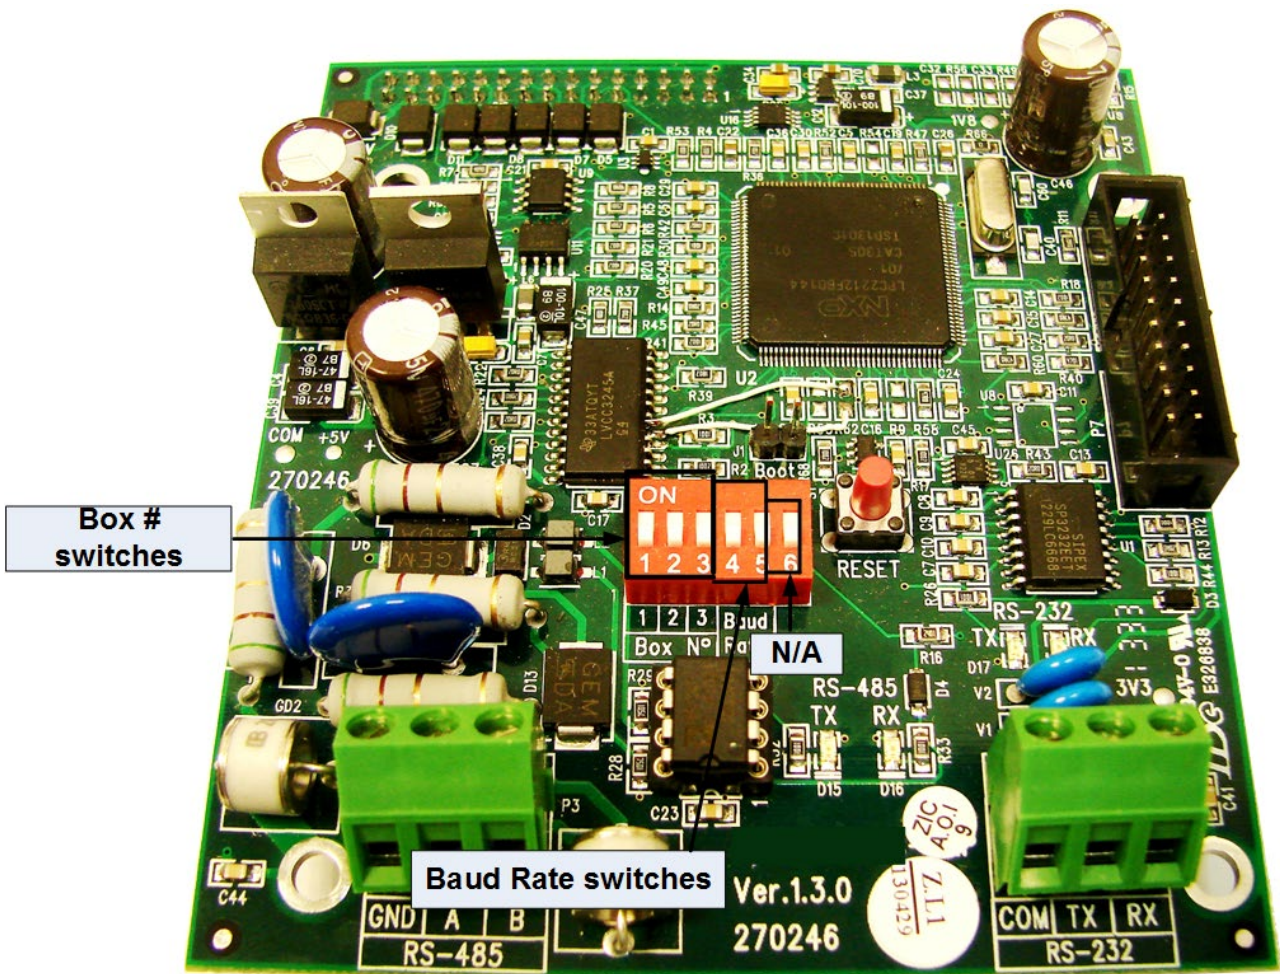

Figure 1: Expansion card layout
- RS-485 using an RCLP 485 X 2 (long range – see Figure 1):